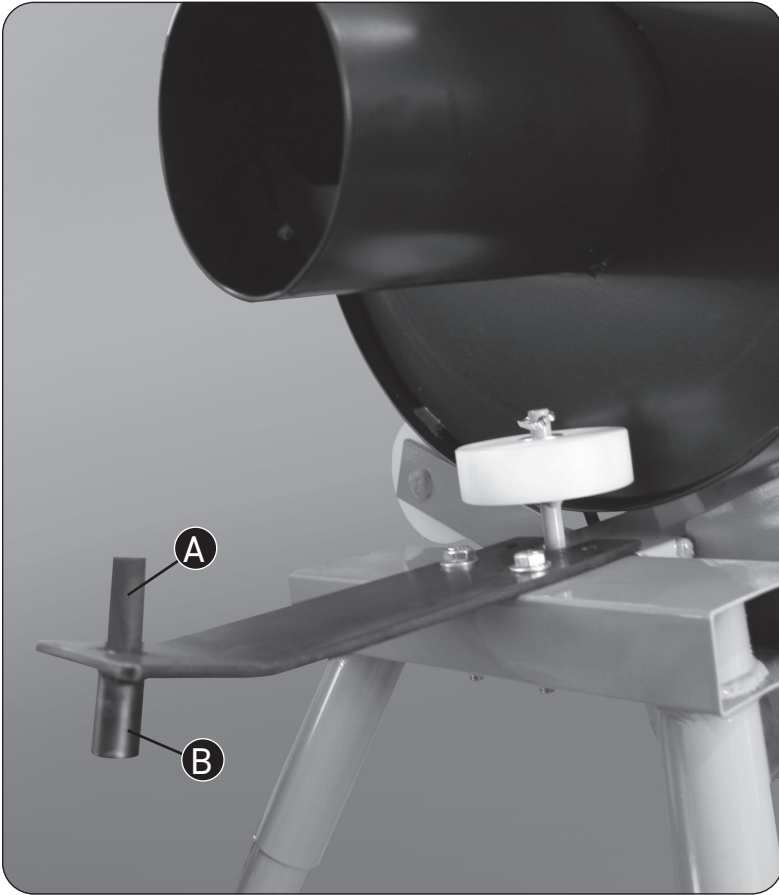

Figure 8 Team Ball Feeder and bracket.
IMPORTANT Make sure the bracket is attached with the rubber tube facing **up** (See Figure 8 on page 8).
4. Attach the flexible stem socket to the flexible stem (See Figure 8), being sure the flexible stem inserts fully into the flexible stem socket.